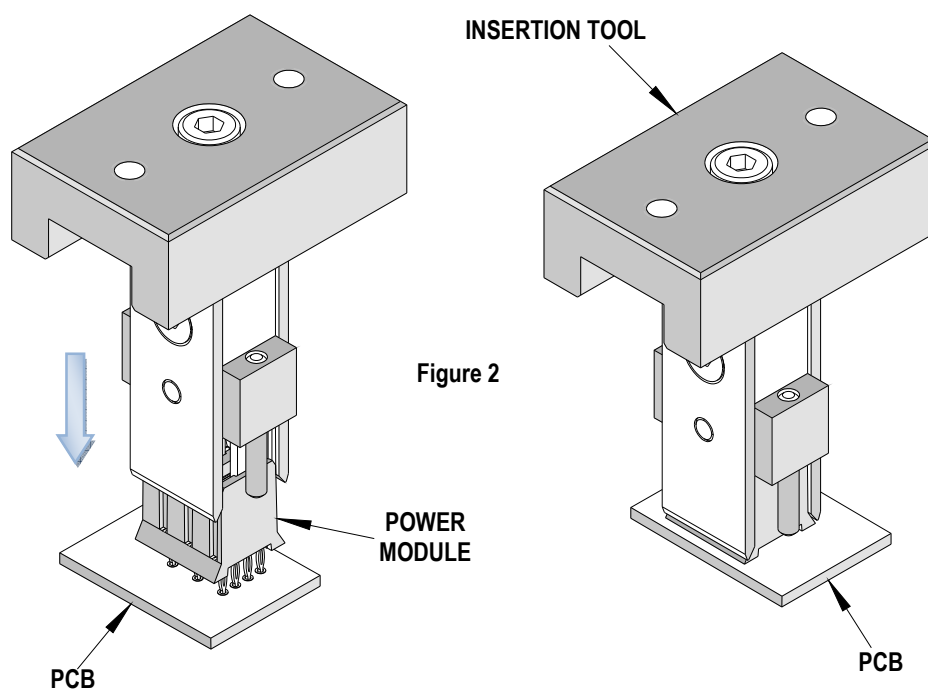

Figure 2
2. Line-up the insertion tool so the tool fits inside the power header. See Figure 2.
3. Using the application tool and an appropriate press, press in the Power Module until the stand-offs just touch the surface of the PCB. See Figure 2.